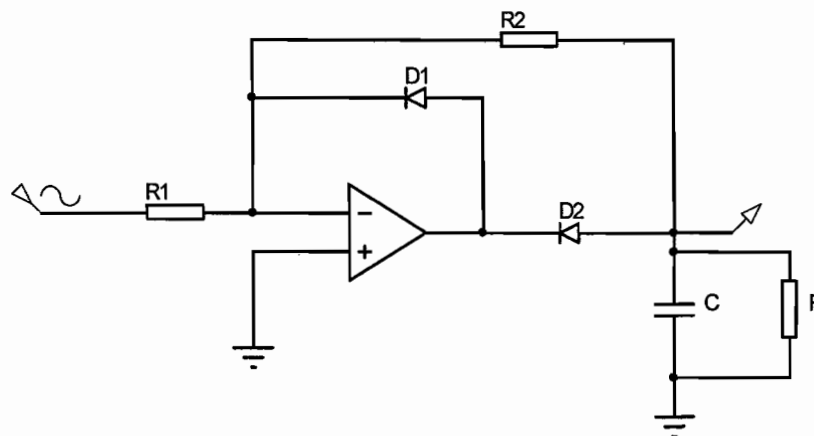
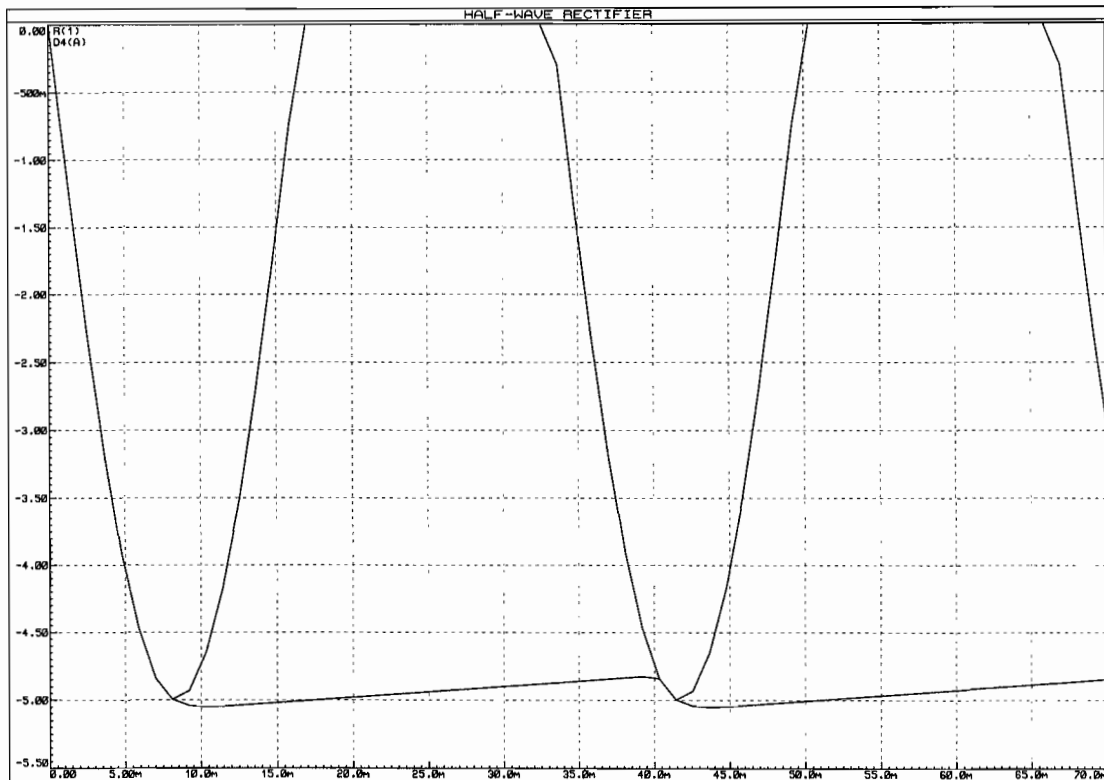

Fig 4.4
Fig 4.5
- c) A capacitor added in Fig 4.4 will maintain the output shown in Fig 4.5.